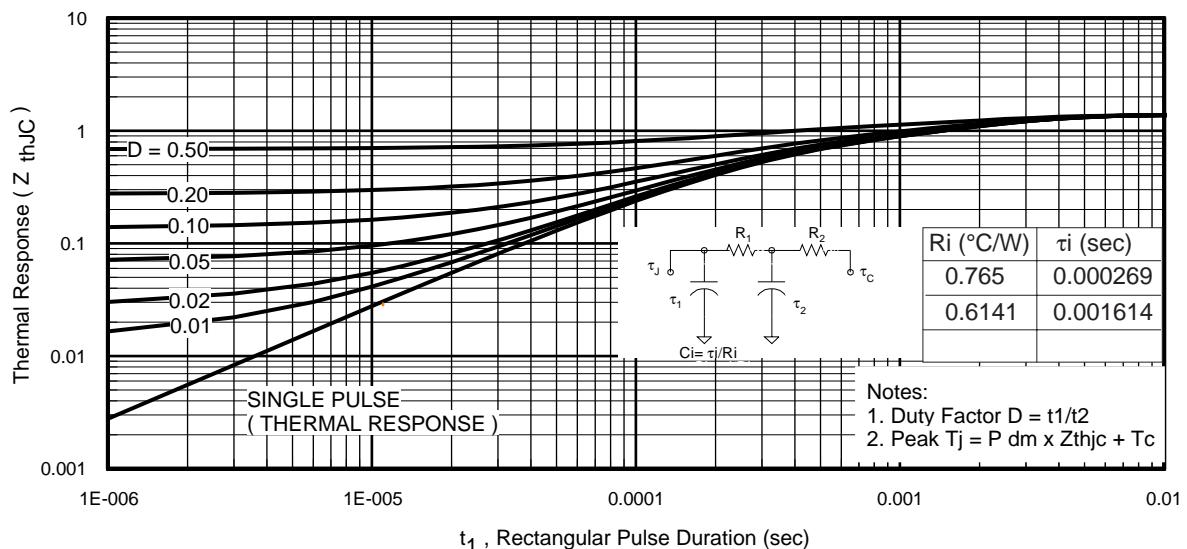
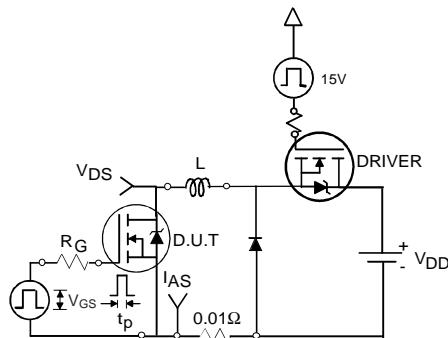

Fig 11. Maximum Effective Transient Thermal Impedance, Junction-to-Case
Fig 12a. Unclamped Inductive Test Circuit
3. Equation below based on circuit and waveforms shown in Figures 12a, 12b.
$Z_{thJC}(D, t_{av})$ = Transient thermal resistance, see figure 11)
- ① Repetitive rating; pulse width limited by max. junction temperature. (See fig. 11).
- ② Limited by T_{Jmax} , starting $T_J = 25^\circ C$, $L = 0.089mH$ $R_G = 25\Omega$, $I_{AS} = 36A$, $V_{GS} = 10V$. Part not recommended for use above this value.
- ③ Pulse width $\leq 1.0ms$; duty cycle $\leq 2\%$.
- ④ C_{oss} eff. is a fixed capacitance that gives the same charging time as C_{oss} while V_{DS} is rising from 0 to 80% V_{DSS} .
- ⑤ Limited by T_{Jmax} , see Fig.12a, 12b, 15, 16 for typical repetitive avalanche performance.
- ⑥ This value determined from sample failure population. 100% tested to this value in production.
- ⑦ When mounted on 1" square PCB (FR-4 or G-10 Material). For recommended footprint and soldering techniques refer to application note #AN-994
- ⑧ R_θ is measured at T_J approximately $90^\circ C$